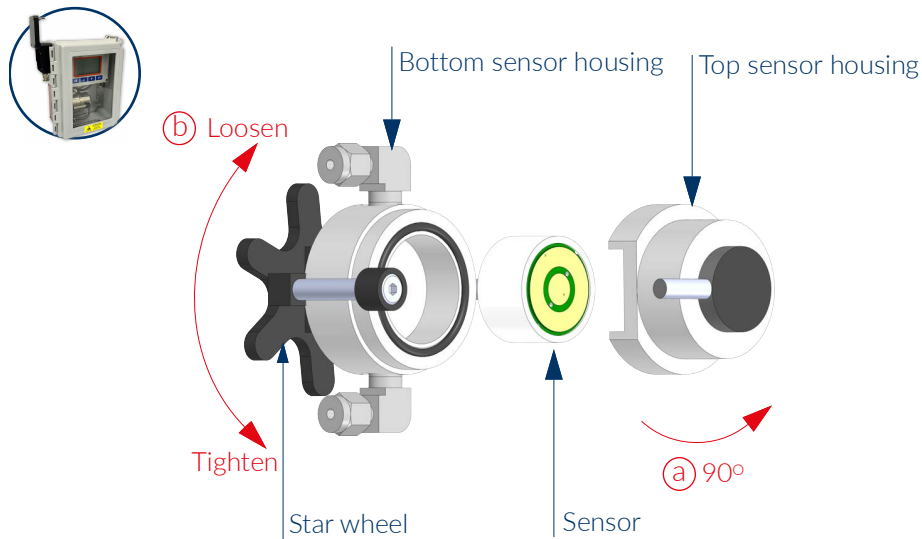

Figure 4. Installing and uninstalling your sensor (GPR-1500)
3. Open the sensor housing (refer to Figure 4 below for guidance).
- Secure it with the star wheel at the bottom of the housing assembly (refer to 'b' in Figure 4 on page 12).